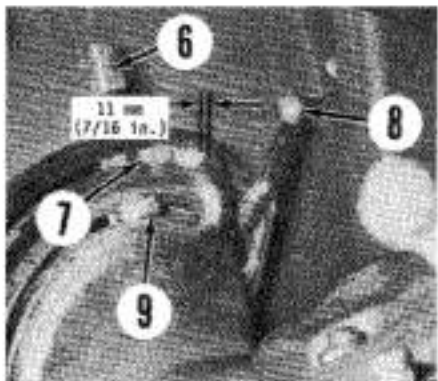

Fig. 177—View of controls for models without pressure control. Refer to text for tests and adjustments.
187. Before beginning system checks, be sure oil level is at full mark on dipstick (5—Fig. 176), and test system only after oil has reached operating temperature of approximately 50°C (120°F). Connect a 35000 kPa (5000 psi) pressure gage (1) at test port (3) in lift cover. Move the response control lever (4) to "FAST" and the inner quadrant lever (6) to "TRANSPORT". If system is pressure control type, make sure that transport stop (7) is fully rearward directly beneath "PRESSURE" range of inner quadrant. If system is nonpressure type, check that center of rear bolt holding transport stop (7—Fig. 177) is 11 mm (7/16 inch) from rear of quadrant stop. On all models, check to be sure lever friction springs are compressed to 20.6 mm (13/16 inch). This amount of compression should permit levers to slide freely, but should hold position when released.
If nonpressure control style, move inner quadrant lever (6—Fig. 177) fully "UP" in quadrant past the transport